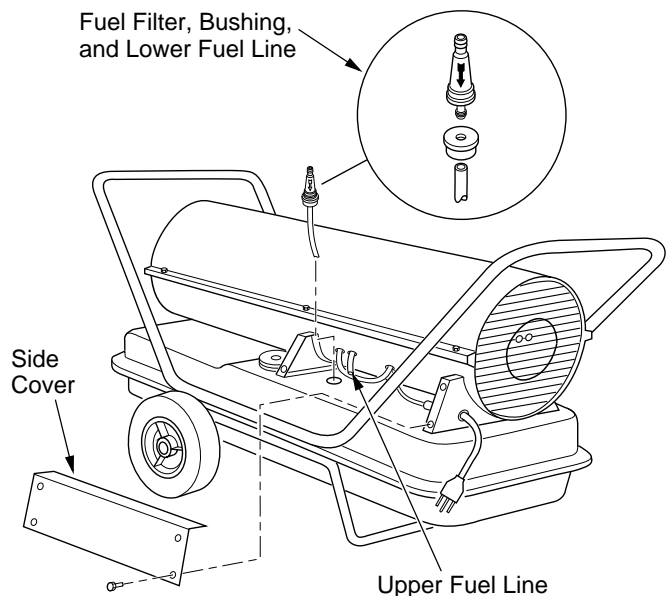

Figure 16 - Fuel Filter Removal, 110/115/155/165 Models
4. Carefully pry bushing, fuel filter, and lower fuel line (110/115/155/165 Models only) out of fuel tank (see Figure 16).
Note: See Figure 16, page 9 if your model does not come equipped with a fuel valve.